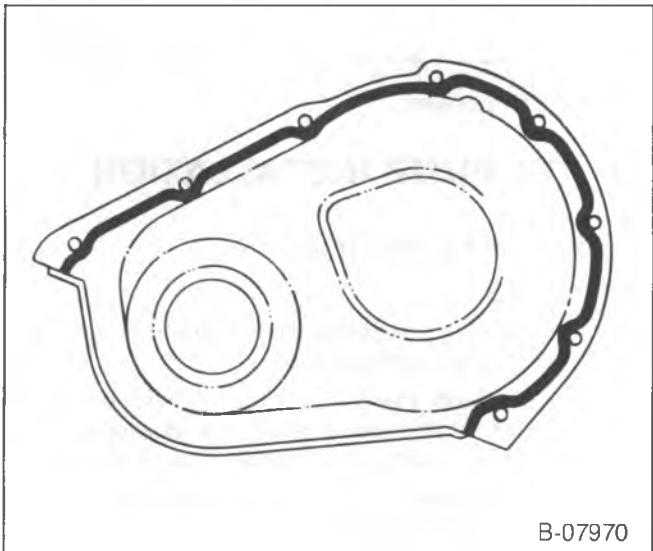

Figure 45—Applying RTV to the Timing Gear Cover
- Apply a 6 mm (1/4-inch) by 3 mm (1/8-inch) thick bead of RTV to the timing gear cover at the block sealing surface. Refer to figure 45.